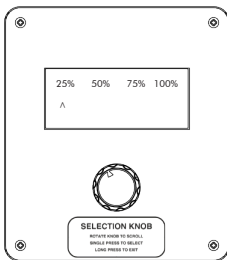

fig. no.22.2
• **STEAM POWER** (fig. no.22.2)